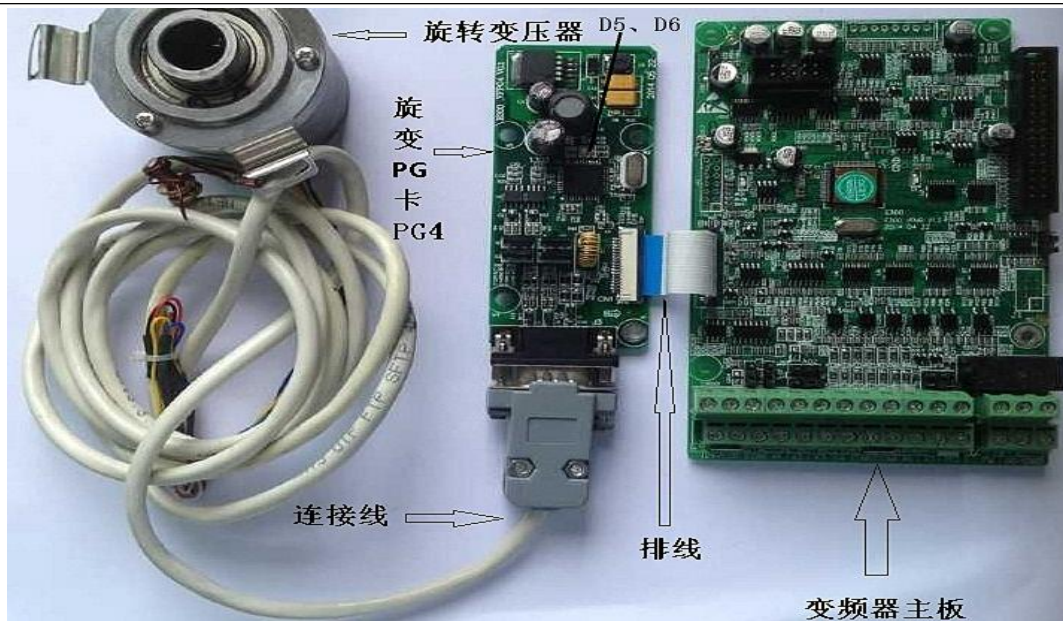

Figure 4: HV610-PG-RB test
- 2) Connect the HV610-PG-RB card to the encoder. As shown in Figure 4 below: